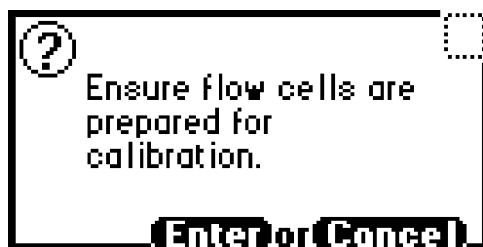

Figure 3-20 Wavelength Calibration Message
1. Press **Shift-Calibrate**. A prompt appears (Figure 3-20), reminding you to make sure flow cells are prepared.